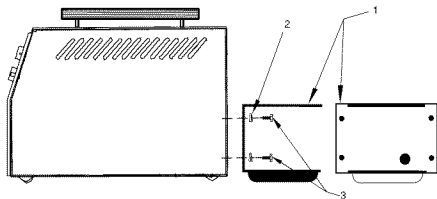

Figure 1. Mount Tank Tray Bracket To Welder
The tank tray bracket is installed on the back of the welder, see Figure 1.
1. Align the four tank tray bracket (1) mounting holes (as shown in Figure 1) with the four staked nuts on the rear of the welder.
2. Start one ¼ inch split lock washer (2) and a ¼-20 x ½ inch hex bolt (3) in one of the top tank tray bracket (1) mounting holes, then start each of the other three split lock nuts (2) and ¼-20 x ½ inch hex bolts (3) through the remaining mounting holes.